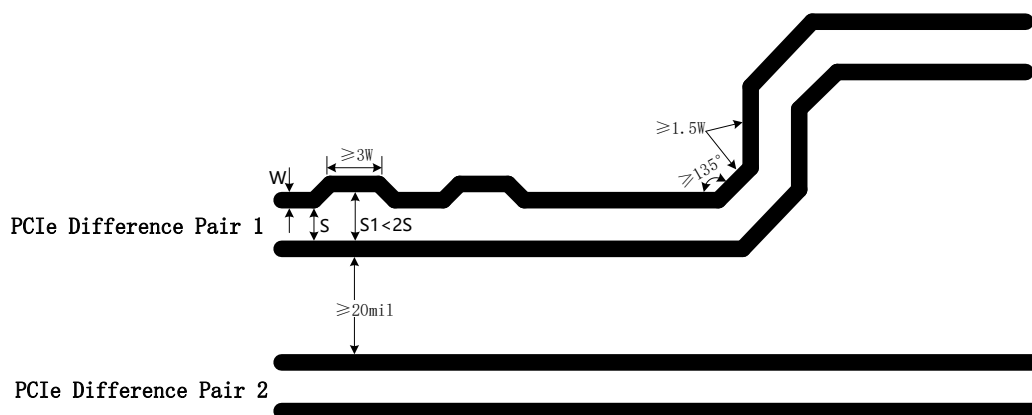

Figure 3-14 Requirement of PCIe line
- Try to avoid bended lines and avoid introducing common-mode noise in the system, which will influence the signal integrity and EMI of difference pair. As shown in Figure 3-14, the bending angle of all lines should be equal or greater than 135° , the spacing between difference pair lines should be larger than 20mil, and the line caused by bending should be greater than 1.5 times line width at least. When a serpentine line is used for length match with another line, the bended length of each segment shall be at least 3 times the line width ($\geq 3W$). The largest spacing between the bended part of the serpentine line and another one of the differential lines must be less than 2 times the spacing of normal differential lines ($S1 < 2S$);